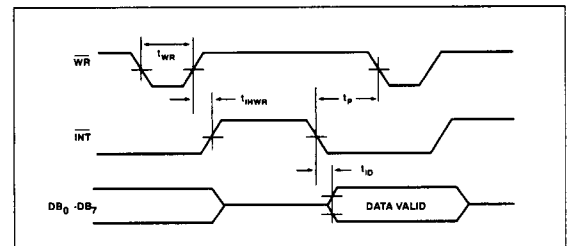

Figure 4: WR-RD Mode – Stand-Alone Operation (Pin 7 = +5V,  $CS = RD = 0V$ )
**Stand-Alone Configuration (See Figure 4)** — Stand-alone operation is possible with the PM-0820 by operating it in the WR-RD mode. CS and RD are first tied low, conversion is then started when WR is taken low. Data valid occurs approximately 800ns after the rising edge of the WR signal.